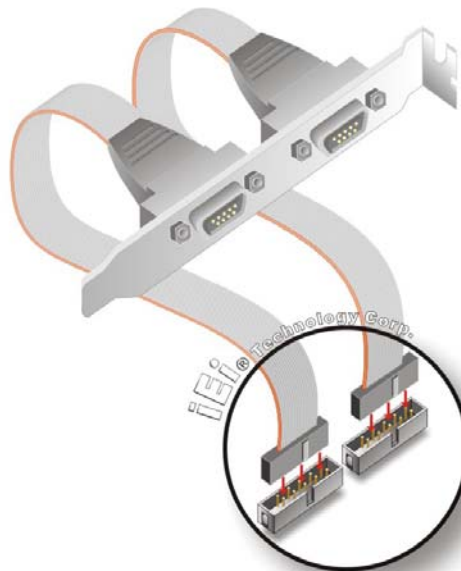

Figure 5-16: Dual RS-232 Cable Installation
Step 2: Insert the cable connectors. Insert one connector into each serial port box headers. See **Figure 5-16**. A key on the front of the cable connectors ensures the connector can only be installed in one direction.